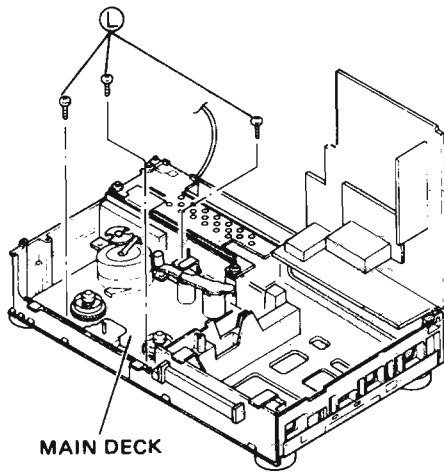

Fig. 1-1-10
2. Refer to Fig. 1-1-10 and take out 3 screws (L) from the main-deck assembly.